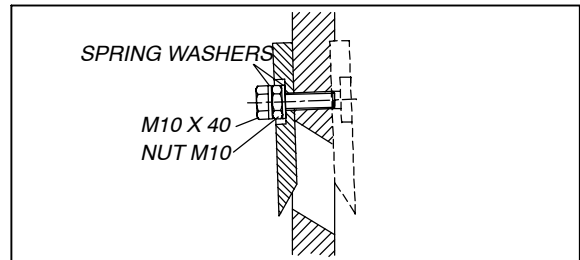

Fig. 11. Remove the knife and attach it to the other side of the disk. The dotted line shows the knife in its normal cutting position.
8. Place another spring washer on the bolt and thread the bolt through the knife into the disk as shown in figure 11. Tighten the bolts to 45 Nm (38 foot-pounds). **IMPORTANT! To retain the balance always use all four fastening bolts of the knife.**